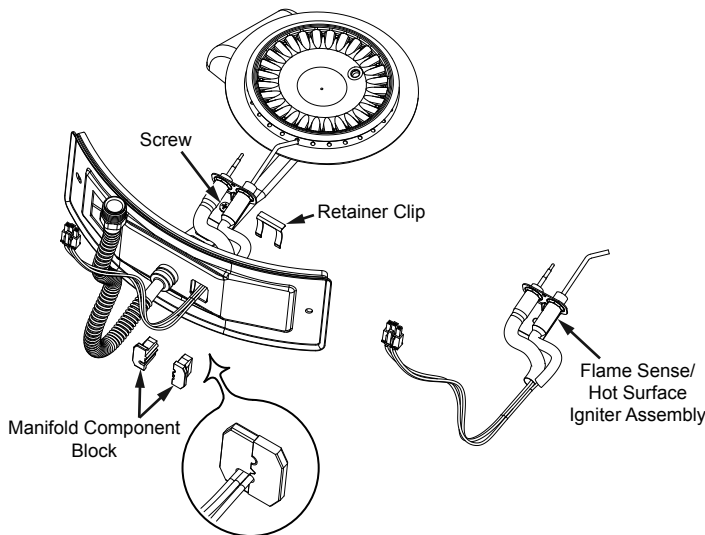

FIGURE 26.
2. Lift the retainer clip straight up from the back of the manifold component block (using a flat-blade screwdriver), then remove the manifold component block from the manifold door (Figure 26.)
3. Remove and keep the screw securing the flame sense/hot surface igniter assembly (Figure 26).
5. Route the new flame sense/hot surface igniter connector wire through manifold/burner door opening as shown in figure 26. Secure assembly to bracket using screw removed earlier.